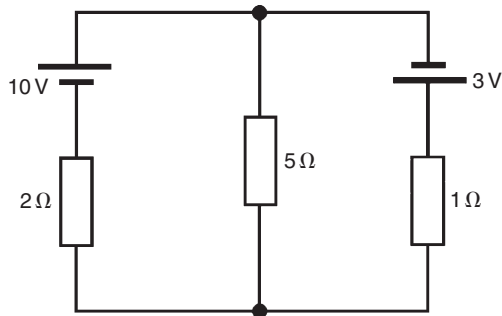

Figure RT4.1
- Find the current flowing in the 5Ω resistor of the circuit shown in Fig. RT4.1 using (a) Kirchhoff's laws, (b) the superposition theorem, (c) Thévenin's theorem, (d) Norton's theorem. Demonstrate that the same answer results from each method.